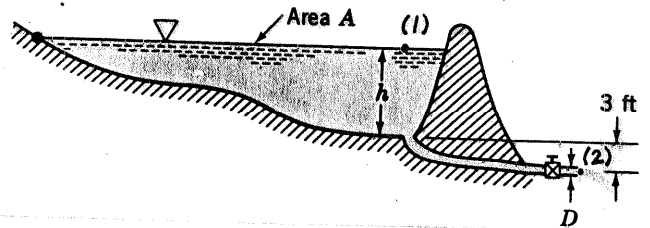

FIGURE P3.80
*3.80 The surface area, A , of the pond shown in Fig. P3.80 varies with the water depth, h , as shown in the table. At time $t = 0$ a valve is opened and the pond is allowed to drain through a pipe of diameter D . If viscous effects are negligible and quasisteady conditions are assumed, plot the water depth as a function of time from when the valve is opened ($t = 0$) until the pond is drained for pipe diameters of $D = 0.5, 1.0, 1.5, 2.0, 2.5$, and 3.0 ft. Assume $h = 18$ ft at $t = 0$.